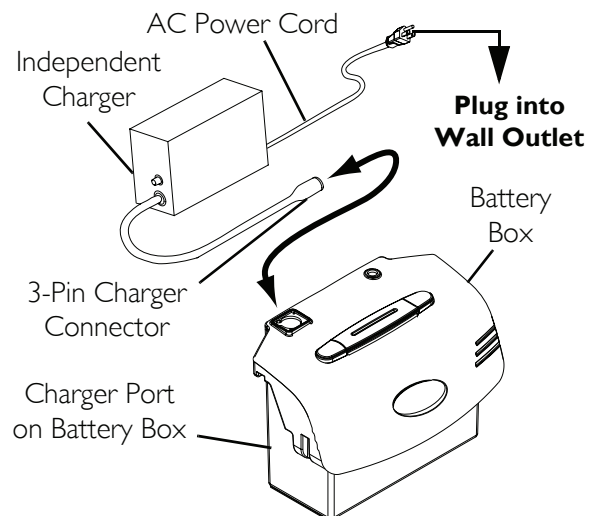

FIGURE 8.8 Charging Using an Independent Charger - Charger Plugged Directly to Batteries - At'm QT Only
NOTE: For this procedure, refer to FIGURE 8.8.
3. Plug the charger connector into the charger port located on the battery box (FIGURE 8.8).